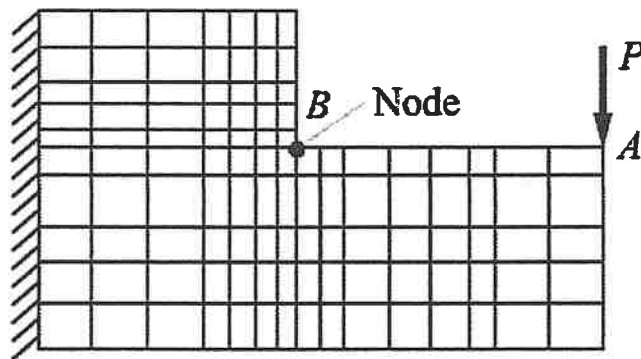

Figure Q5(c)
- c) **Figure Q5(c)** shows a **re-entrant corner (B)** of a model. Briefly explain the problem associated with **re-entrant corners in linear elastic models** in FEM. Suggest two (02) possible solutions to solve that problem.